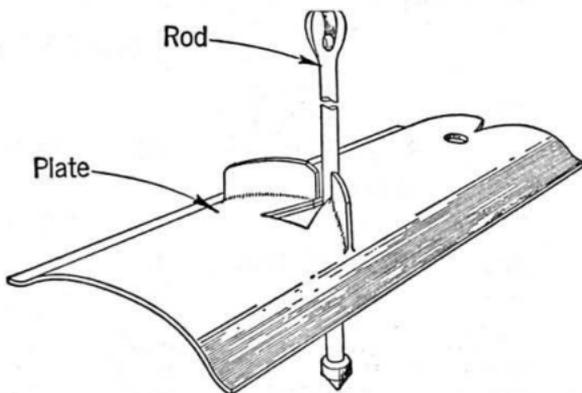

Fig. 1
1.01 These anchors, shown in Fig. 1, have a solid plate and come equipped with a special rod.